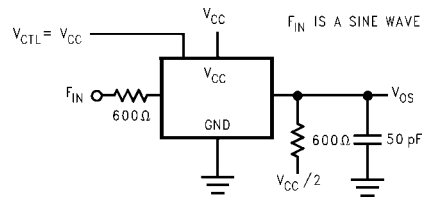

FIGURE 10. Switch OFF Signal Feedthrough Isolation
| | Switch OFF Signal Feedthrough Isolation (Figure 10) | R _L = 600Ω, F = 1 MHz V _(CT) V _{IL} (Note 7)(Note 8) | 4.5V | −42 | | | dB |